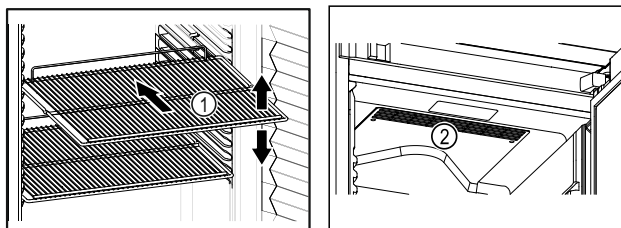

Fig. 67
- ❑ Ventilation slots Fig. 67 (2) for recirculation fan in the interior must be kept clear.